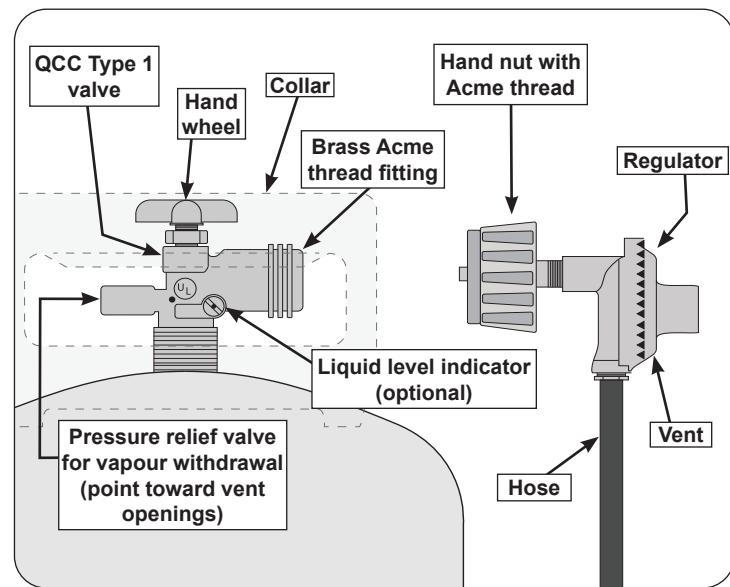

Fig. 7-1 Type I Acme thread coupler
- d. The cylinder used must include a collar to protect the cylinder valve. The cylinder supply system must be arranged for vapour withdrawal. See Fig. 7-1.
- e. When used with a cylinder, the gas supply system must be used with a pressure regulator. The pressure regulator and hose assembly (Fig. 7-1) supplied with this outdoor gas appliance (**L.P. models only**) must be used. Original and replacement pressure regulator and hose assemblies must be those specified by the manufacturer for connection with a cylinder connecting device identified as Type I by the ANSI Z 21.58/CGA 1.6 and must comply with UL 144 as a part of the self-contained LP gas supply system (see PARTS LIST for ordering information).
To disconnect: Turn the hand nut counterclockwise until detached (Fig. 7-1).